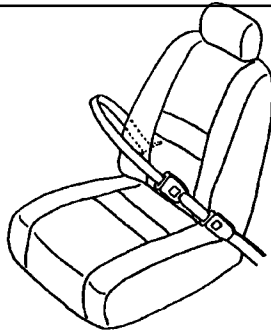
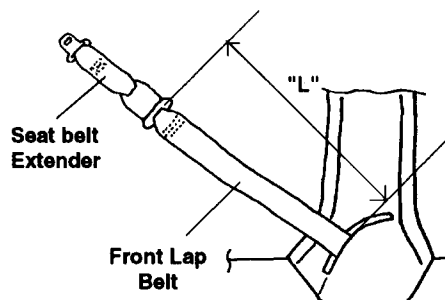

Figure 1
Figure 2
* If dimension "L" is under 24 inches, the extender must not be used (see Figures 1 and 2).
3. IF SEAT BELT DOES NOT LATCH, THEN MEASURE THE DISTANCE FROM SEAT BELT LATCH EDGE TO THE SEAT BELT BUCKLE, AS SHOWN IN FIGURE 2 AND NOTE THE DIMENSION.
4. MEASURE THE LAP AREA DIRECTLY BELOW NAVEL TO THE EDGE OF THE BUCKLE, AS SHOWN IN FIGURE 1 BELOW, AND NOTE THE DIMENSION.
5. THE DIFFERENCE BETWEEN FIGURE 1 AND FIGURE 2 MEASUREMENT IS THE ACTUAL MEASUREMENT THE CUSTOMER RELATIONS DEPARTMENT WILL DETERMINE THE EXTENDER LENGTH.
NOTE: IF THE DIFFERENCE FROM THE NAVEL TO BUCKLE DIMENSION (FIGURE 1) MINUS LATCH TO BUCKLE DIMENSION (FIGURE 2) IS SMALLER THAN 6 INCHES, THE SEAT BELT EXTENDER WILL NOT BE AVAILABLE DUE TO DESIGN AND CONSTRUCTION FEATURES.